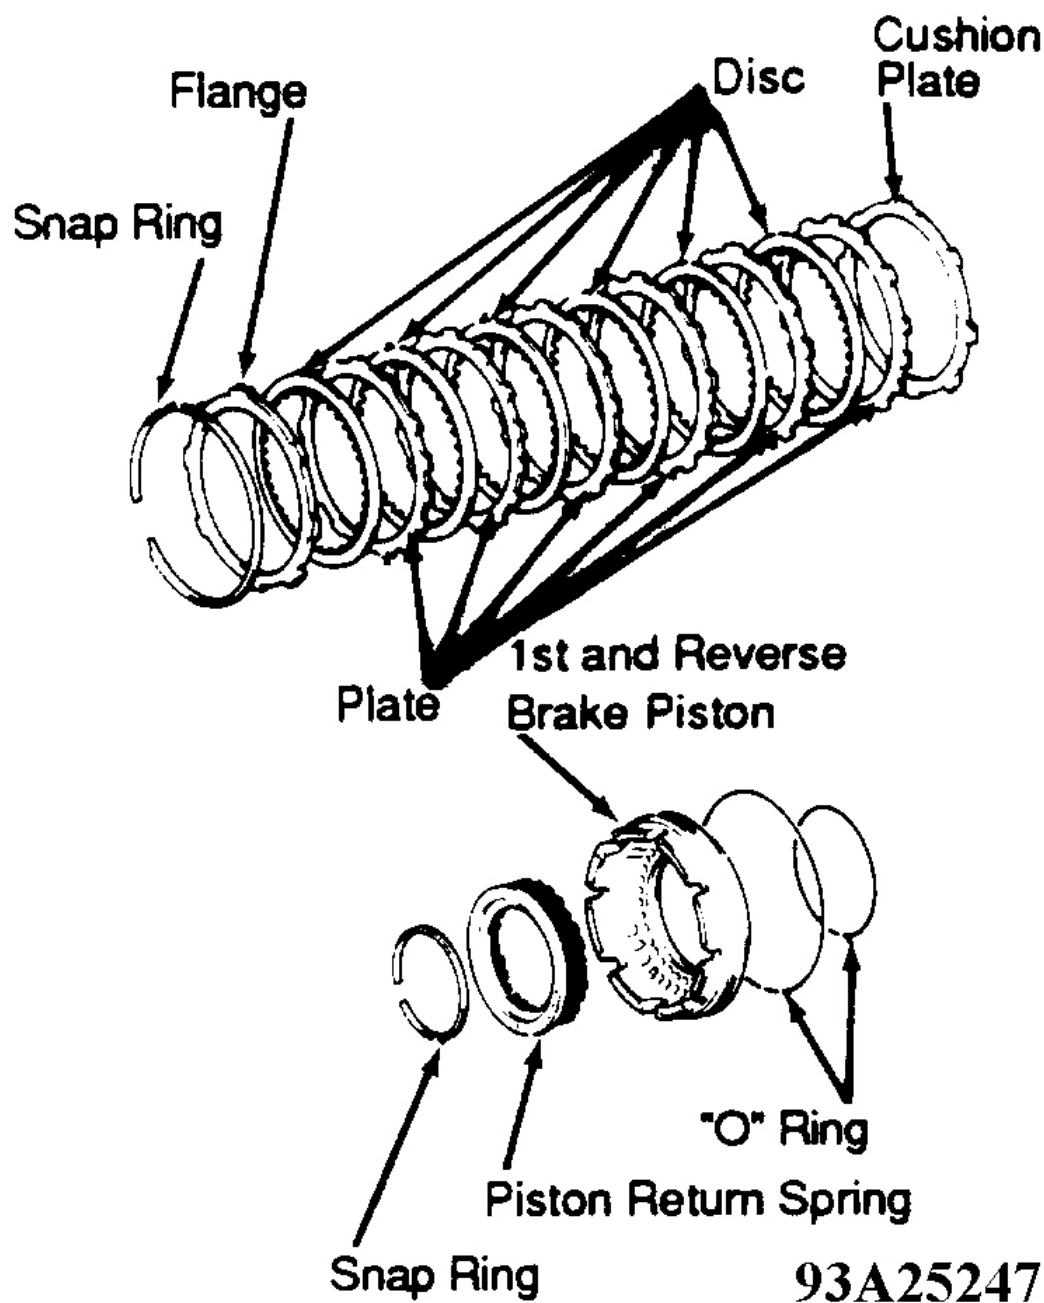

Fig. 34: Exploded View Of 1st & Reverse Brake
3. Install cushion plate with rounded edge facing inward. Install in order: plate, disc, plate, disc, plate, disc, plate, disc, plate, disc, plate, disc. Install flange with rounded edge facing outward. If flange is step edged, install flange with step edge facing inward. Install snap ring. Ensure end of snap ring is not aligned with cutout portion of transmission case. See **Fig. 34**.